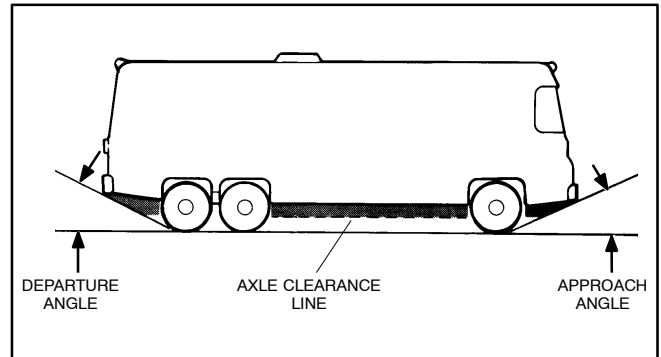

FIGURE 7-8. VEHICLE CLEARANCES
**⚠ WARNING** ***EXHAUST GAS IS DEADLY! Keep exhaust gases from entering the vehicle — Do not terminate the exhaust tail pipe underneath the vehicle or closer than 6 inches (153 mm) to openings into the vehicle. Route the exhaust system such that it is protected from damage (Figures 7-8, 7-9 and 7-10). Use approved materials only.***
6. To keep the tail pipe from being damaged, do not route it such that it protrudes into the approach or departure angles of the vehicle or below the axle clearance line (Figure 7-8).